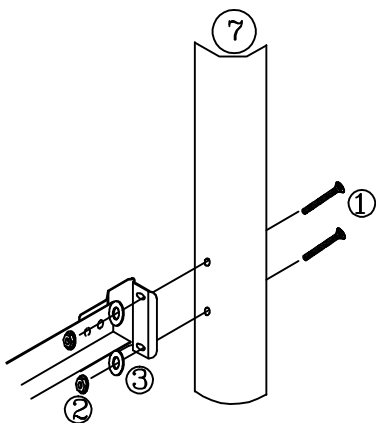

FIGURE 4
- Position footboard panel and align holes in the post (7) with holes in the frame bracket. See Figure 4
- Place 2 screws (1) through holes located in post (7). (See Figure 4)
- Place a washer (3) first and then a nut (2) on each screw. Hand-tighten, DO NOT TIGHTEN screws all the way.
- Tighten all screws securely using the Allen wrench (4).